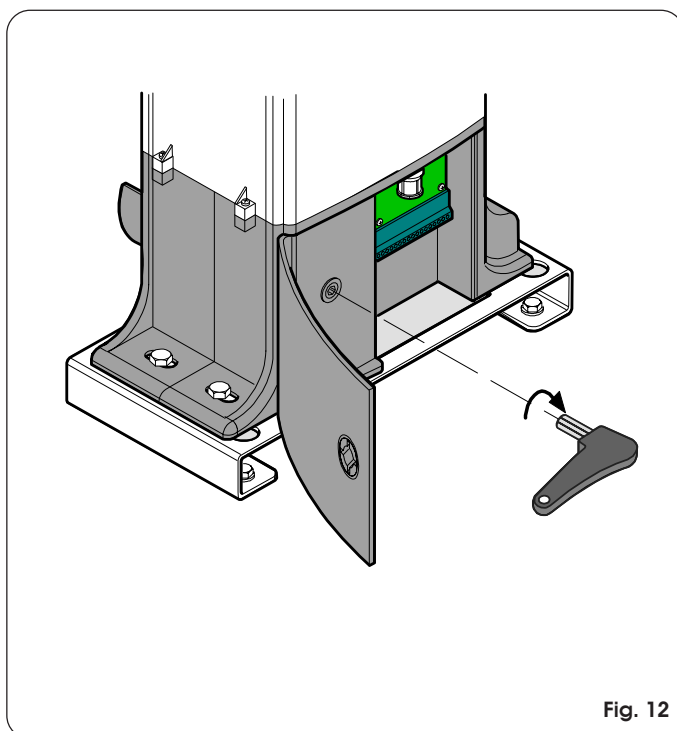

Fig. 12
- Take the supplied key located inside the door, fit it in the release system and turn it clockwise until it reaches the mechanical stop (Fig. 12).